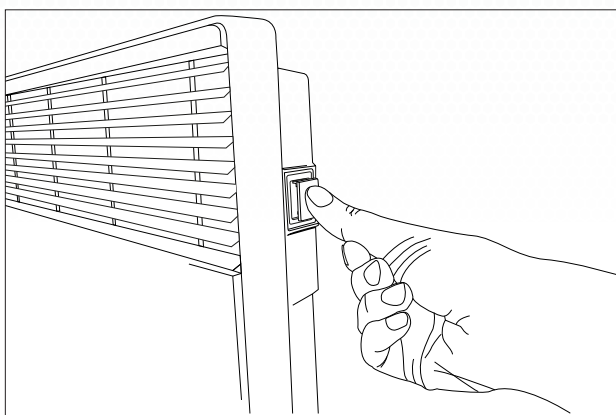

FIG:3
- When the key is located into the T slot, push the key home until it is flush (see fig 3). When the key is fitted the heater will be able to operate when the unit is calling for heat.